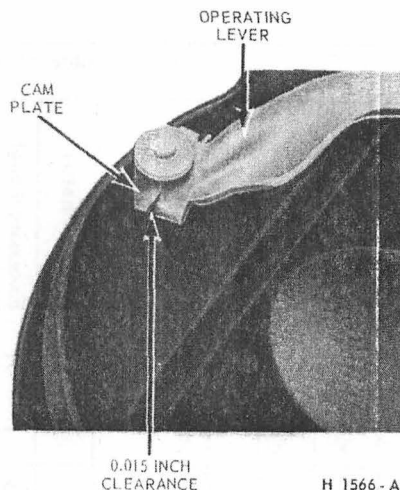

FIG. 2—Parking Brake
5. On E-300 models the rear drums must be removed after the service and parking brakes have been adjusted. Check the clearance between the parking brake lever and the cam plate (Fig. 2). The clearance should be 0.015 inch with the brakes fully released. If the clearance is not within specifications, readjust the parking brake cable.